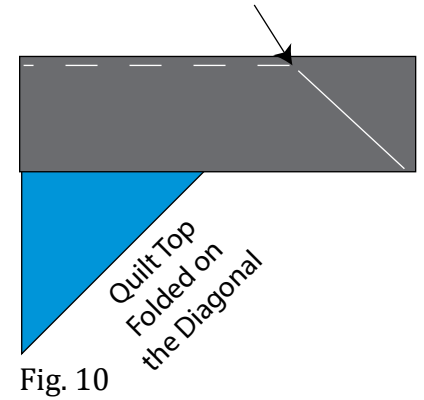

Fig. 10
11. Sew (1) 1 ½" x 52 ½" Fabric F strip to each side of the Center Block. Sew (1) 1 ½" x 34 ½" Fabric F strip to the top and to the bottom of the Center Block.
12. Sew (1) 2" x 54 ½" Fabric B strip to each side of the Center Block. Sew (1) 2" x 37 ½" Fabric B strip to the top and to the bottom of the Center Block.
13. Center (1) 6" x 72" Fabric G strip on (1) side of the Center Block and pin in place. Start sewing the strip a ¼" from the top edge of the block and stop a ¼" from the bottom edge. **DO NOT TRIM THE EXCESS.** Repeat with the opposite side.
14. Repeat Step 13 to sew (1) 6" x 52" Fabric G strip to the top and to the bottom of the Center Block, making sure to stop and start $\frac{1}{4}$ " away from each end of the block. To miter each corner, fold the Center Block on a diagonal, wrong side together. This should line up the strips from adjacent sides (Fig. 10).
15. Starting at the sewn seam (represented by the arrow in Figure 10), draw a 45-degree line to the edge of the fabric. Sew on the drawn line. Trim the excess fabric leaving a $\frac{1}{4}$ " seam. Repeat this step with the remaining corners to make the quilt top.